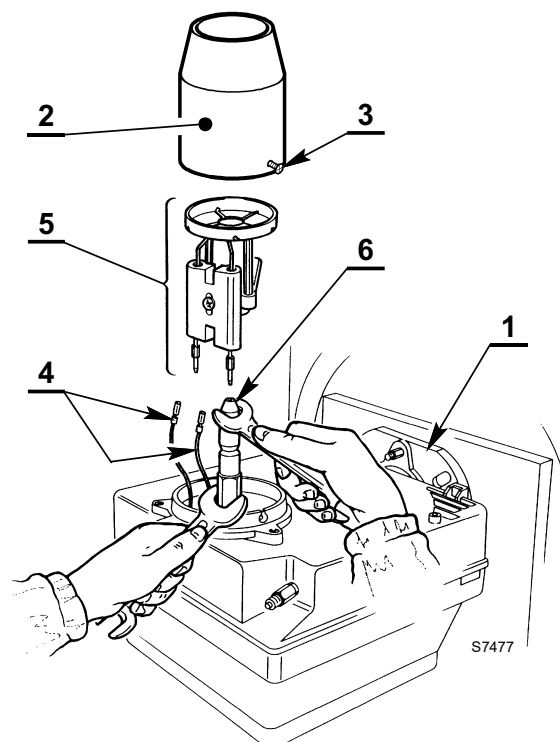

Fig. 12
- Hook the burner to the flange (1), by removing the blast tube (2) after loosening the fixing screws (3).
- Remove the small cables (4) from the electrodes and the diffuser disc-holder assembly (5) from the nozzle-holder assembly after loosening its fixing screw (3).
- **Screw the nozzle (6) correctly and tighten it as shown in Fig. 12.**
- Replace the nozzle, (Fig. 12, on page 9) and check the correct position of electrodes (Fig. 15, on page 10).